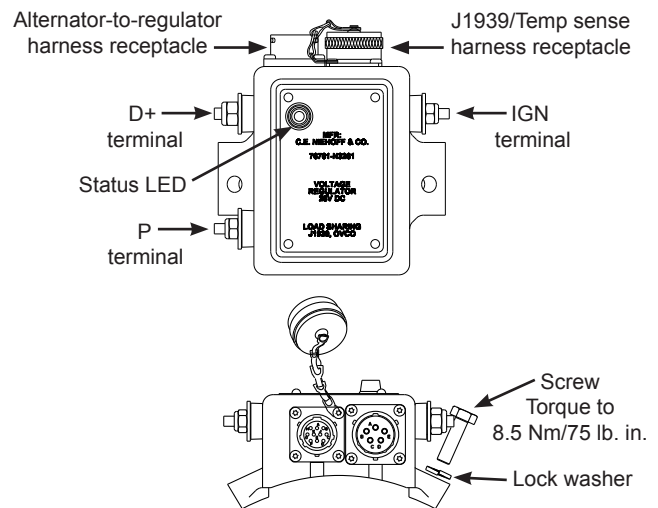

Figure 5: Smart Regulator (N3261, N3282)
4. If using a J1939/temperature-voltage sense harness, plug J1939 harness into J1939 receptacle on smart regulator (N3261, N3282). See Figure 5 for location. Refer to CEN document I1184 for harness installation instructions. Harness sold separately^{2,3}.